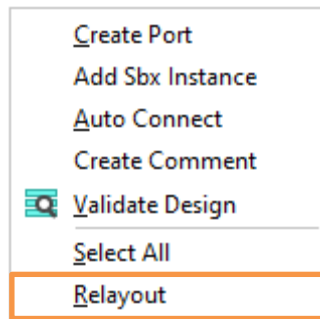

Figure 5.6. Relayout Option
- (Optional) Right-click the Schematic view and select **Relayout** if the new design is out of proportion (Figure 5.6).